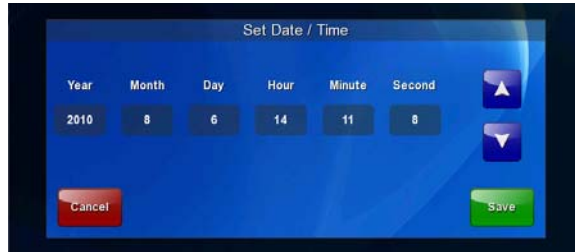

FIG. 61 Set Date/Time popup window
1. From the *Date/Time* page, press the **Set Time** button to open the *Set Date/Time* popup window (FIG. 61).